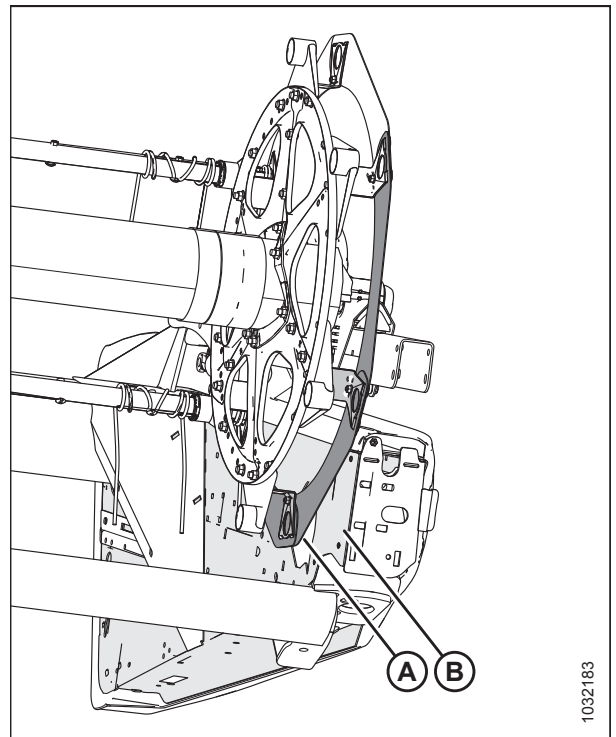

Figure 5.276: Reel Endshield and Header Endsheet
3. Measure clearance at locations (A) between reel and both endsheets. The clearances should be the same if the reel is centered. To see locations (A) in greater detail, refer to Figure 5.276, page 541.